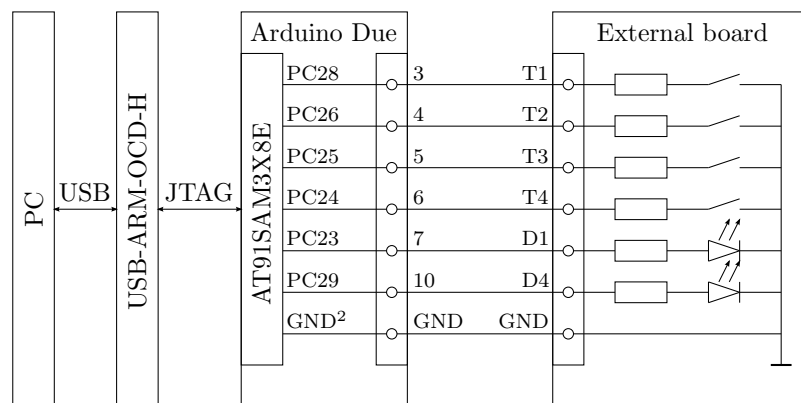

Figure 2.1: PC / Olimex ARM-USB-OCD-H / Arduino Due / External board connection for Exercise 2
Create a new empty project in the Eclipse working environment as explained in Exercise 1. Connect the Arduino Due board to the host PC over the Olimex ARM-USB-OCD-H interface, and to the external board button keys and LEDs, as shown in Fig. 2.1.
E.g., Six pins of the PIOC peripheral device are used in this exercise (see Fig. 2.1). Pins PC23 and PC29 control the LEDs and are therefore output pins. On the other hand, the pins PC24, PC25, PC26 and PC28 are input pins connected to the keys. A pull-up resistor is required at each input pin or else an input pin is floating when the corresponding key is not pressed. To configure the six pins as required, the `pio_configure()` function with the appropriate argument values must be called for the output and input pins: